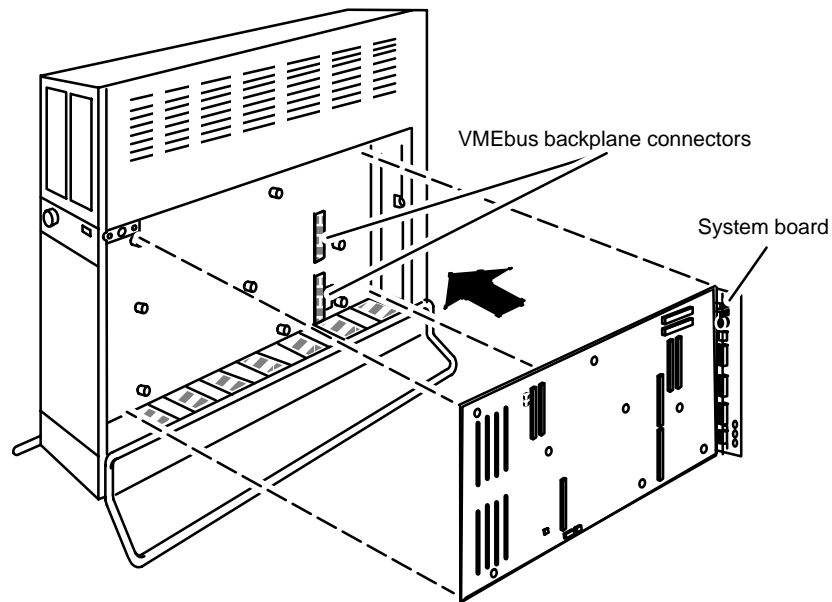

Figure 10-12 Inserting the System Board into the Computer Unit
- Insert the system board in the computer unit, aligning the two VME connectors on the back panel, shown in Figure 10-12, with the two connectors on the back of the system board.